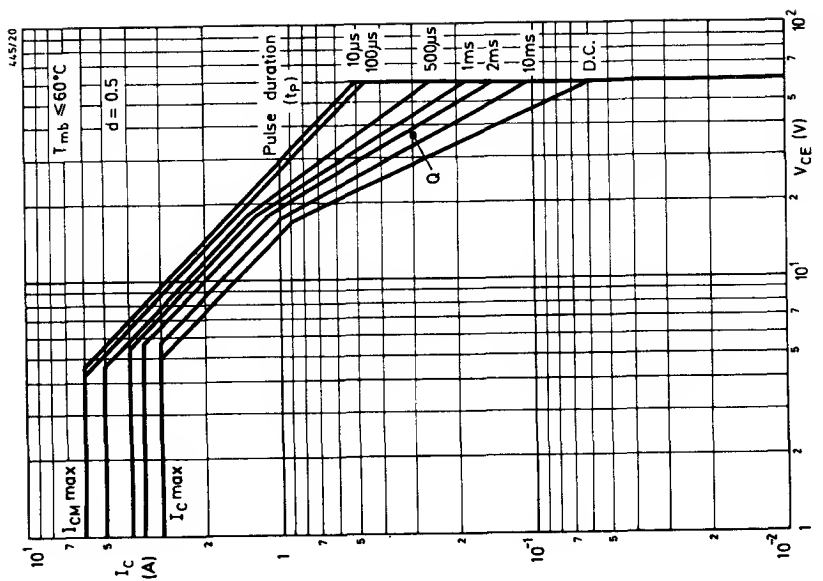

Fig. 5 —Typical SOAR family for $d = 0.5$ (50% duty cycle)
- 7) Plot the point given by the specific I_{CM} and V_{CEM} values, shown as point Q in Fig. 5.
- 1) Using linear interpolation between the 1 and 2ms curves at $d = 0.5$ (Fig. 5) draw a SOAR curve for $t_p = 1.7$ ms. If point P is within this area then the conditions are acceptable and the heatsink thermal resistance can be calculated.